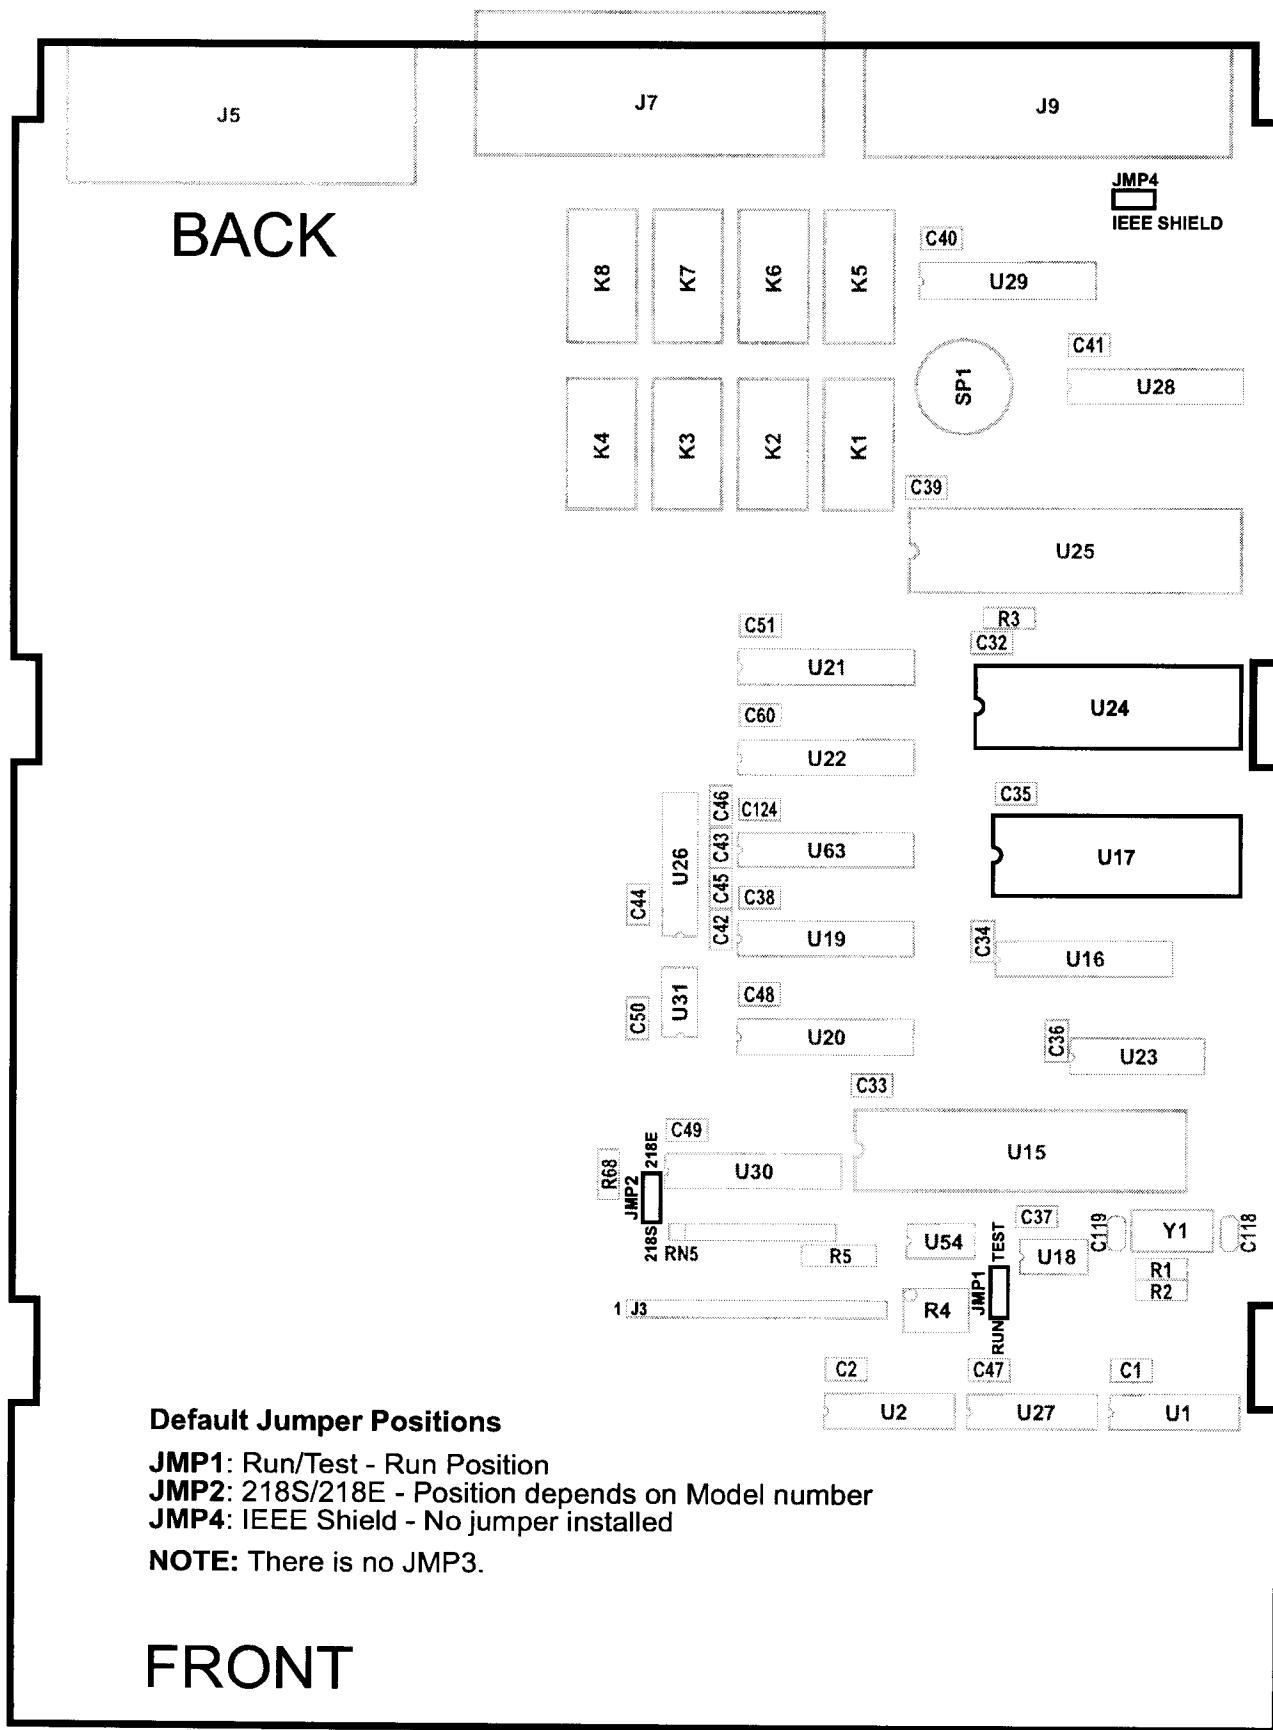

Figure 7-6. Location Of Internal Components
6. Connect power cord to rear of unit and set power switch to On (I).
The operating software for the Model CYD218 is contained on one Erasable Programmable Read Only Memory (EPROM) Integrated Circuit (IC). The reference designator for the EPROM is U17. See Figure 7-6. The EPROM has a sticker on top labeled with "M218.HEX" and the date. The reference designator for the Non-Volatile Random Access Memory (NOVRAM) IC is U24. Use the procedure below to replace either the EPROM or the NOVRAM. NOTE: The factory may provide the CalCurves™ to users in U24 (NOVRAM).
2. Locate EPROM U17 (M218.HEX) or NOVRAM (U24) on the main circuit board. Note orientation of existing IC. See Figure 7-6.